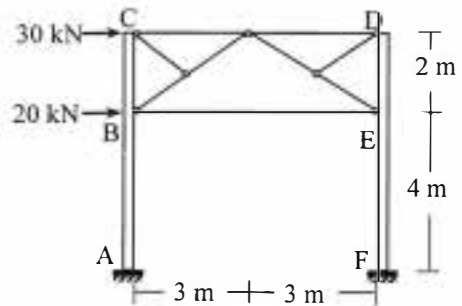

Fig.2
2. Use Portal Method to draw the bending moment diagrams of columns ABC and DEF of the mill bent shown in Fig.2. [05]